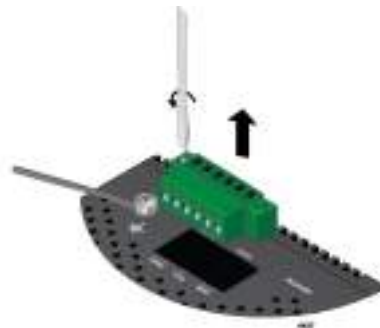

Figure 38. Remove Power/Alarm Connector
4. Remove the power/alarm connector from the top panel. Figure 38 shows the removal of this connector.